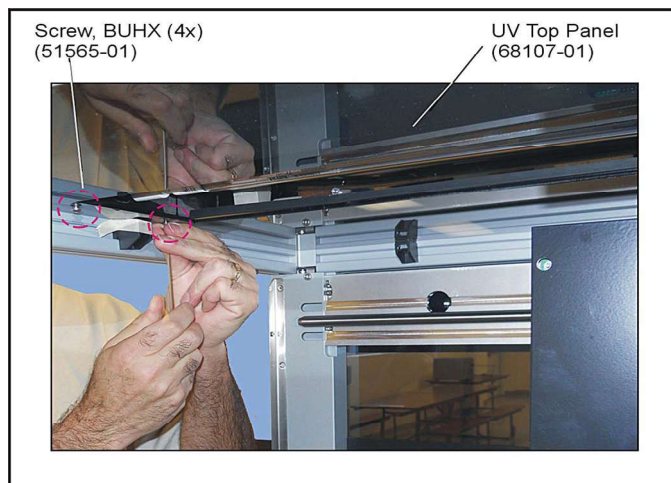

Figure 2-18: Securing the UV fixture to the top panel
6. Attach the UV fixture to the top panel from the inside of the instrument with four BUHX screws (51565-01). See Figure 2-18.